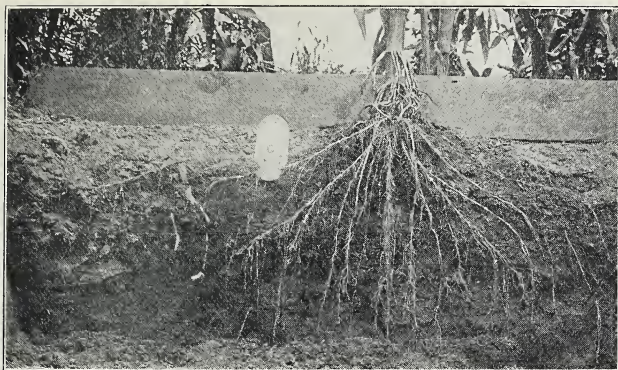

Fig. 398. The roots of a corn plant. Note the anchor roots above ground and the wide-spread roots below ground.
**Corn.** This section of the central states that we have been discussing is so exactly adapted for the growth of corn that it is called the *Corn Belt*. Because its long, thin leaves are susceptible to frost, corn is not planted until that likelihood is past in the spring. If it is to be cut, as in dairy sections, as green fodder for storage in silos for fresh winter food, the seed is planted in hills three or four feet apart to give the plants more space. As soon as the blades appear, cultivation is begun in order to keep the surface of the ground loose and prevent weeds from starting. Nothing contributes more to a good stand of corn than persistent cultivation. Corn relies partly for its quick growth upon a mass of fibrous roots that push to a depth of as much as four feet. Just above the ground short, stalky braces, called *anchor roots*, help to hold the stem erect and resist winds and storms (Fig. 398).